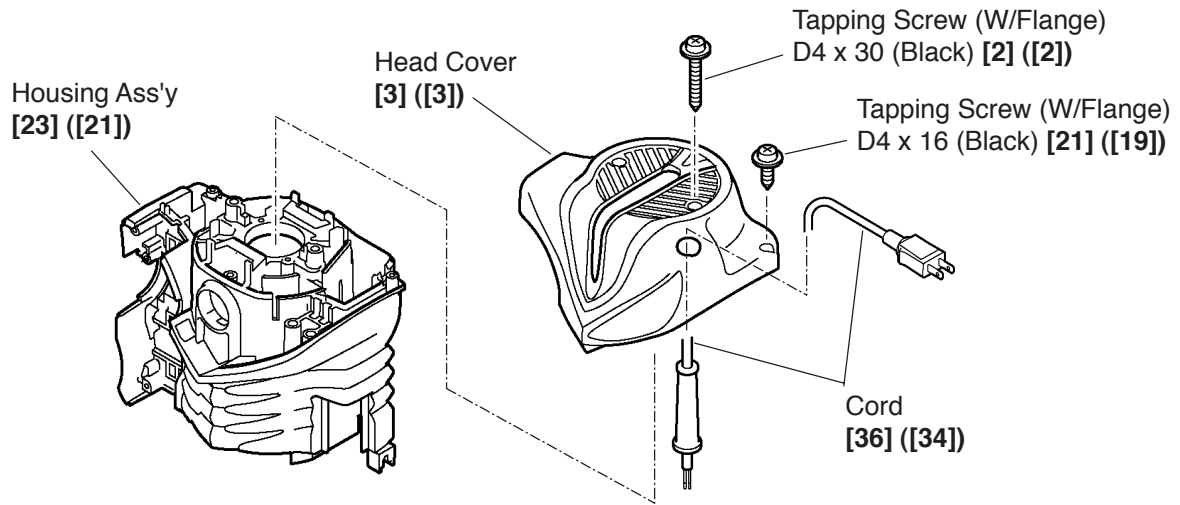

Fig. 10
(3) Removal of the Head Cover [3] ([3]) (Fig. 10)